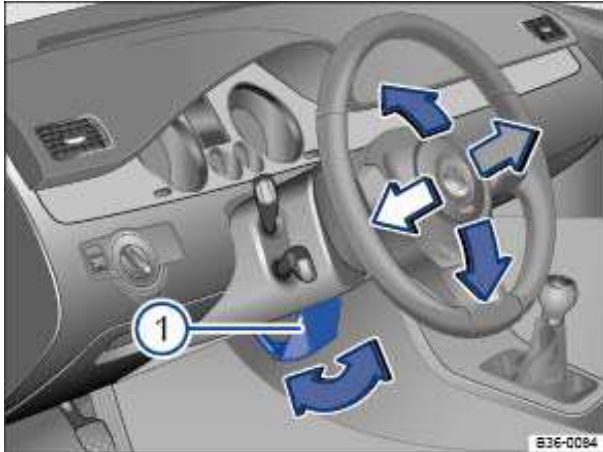

Fig. 40 Manual adjustment for the steering wheel position.
- Push down on the lever ⇒ fig. 40 (1).